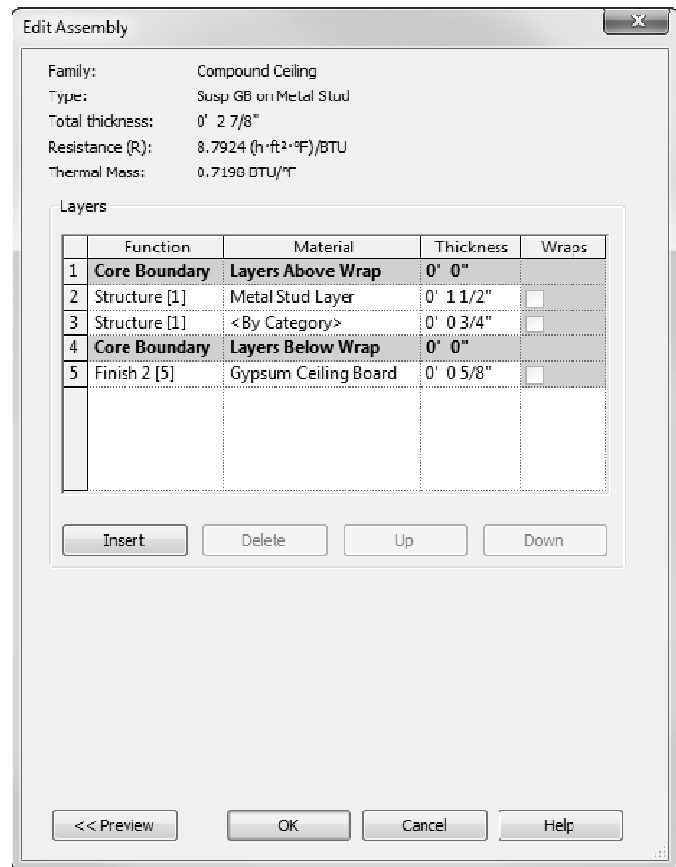

FIGURE 7-4.9 New ceiling – edit assembly
21. Create a *Layer* and set the values as follows (Figure 7-4.9):